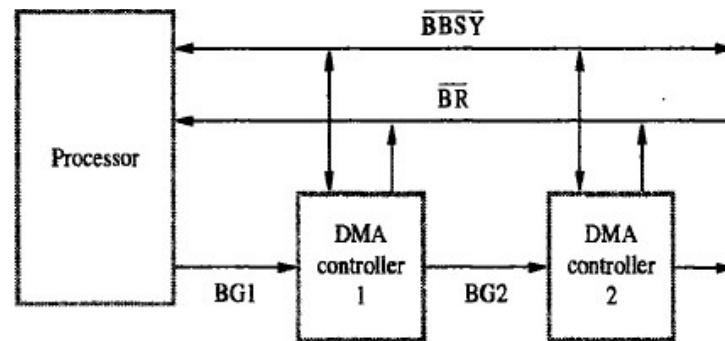

Figure 4.20 A simple arrangement for bus arbitration using a daisy chain.
- A single bus-arbiter performs the required arbitration (Figure:4.20).